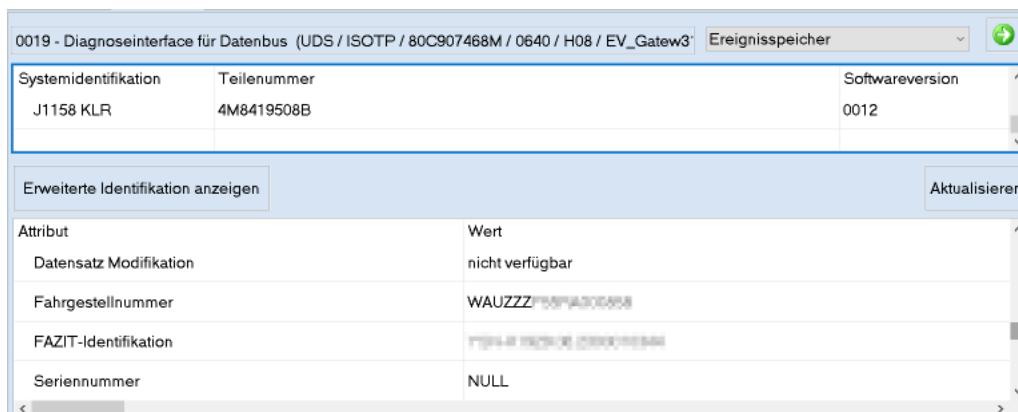

Figure 2. VIN Number
- a. Scroll down to the VIN number. (Figure 2).